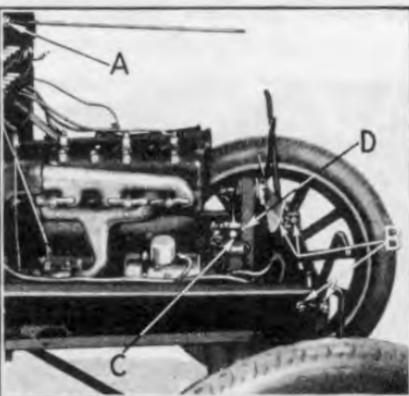

Fig. 22
- (f) Withdraw radiator rod through dash by running off radiator rod nut (See "A" Fig. 22).
- (a) Loosen fan adjusting screw "C". (Fig. 22.)